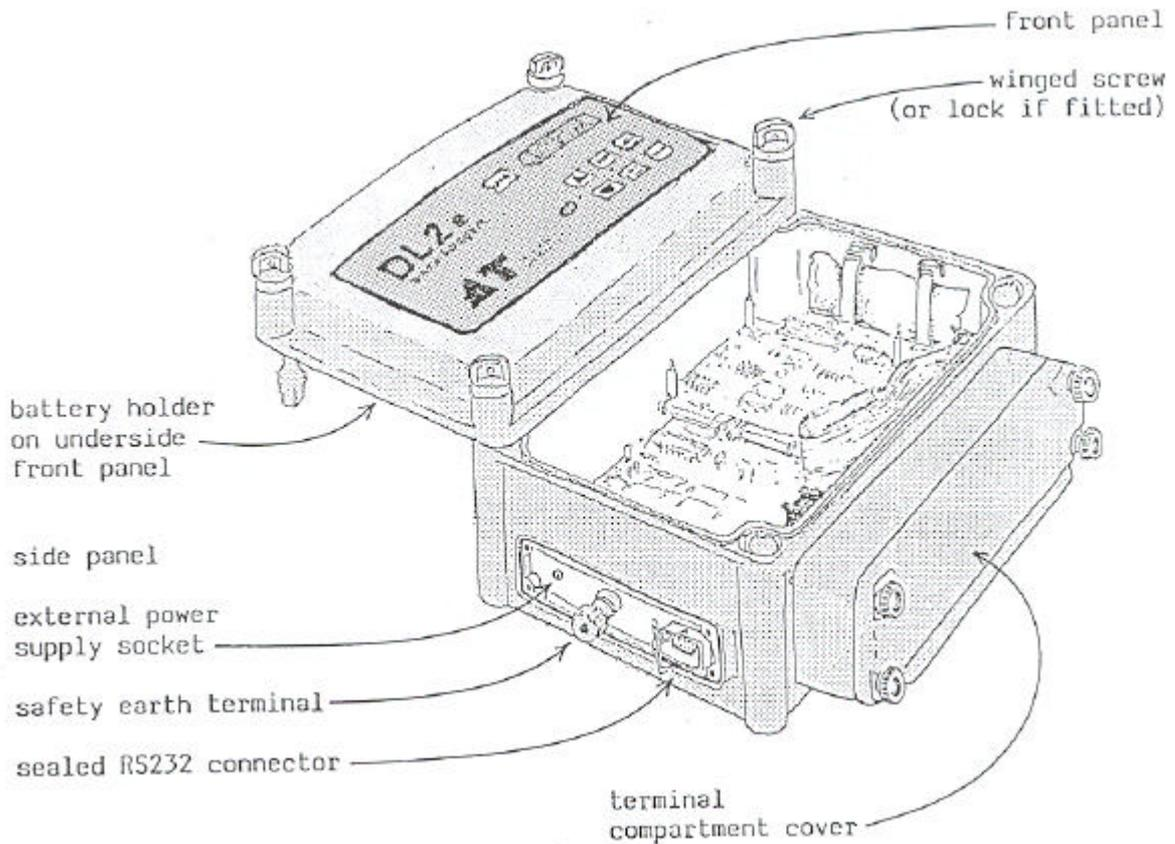

Figure 2 - Main features of DL2e Logger
- If you need to work within the logger's main case, secure the lid in the offset position as shown in Figure 2 - Main features of DL2e Logger